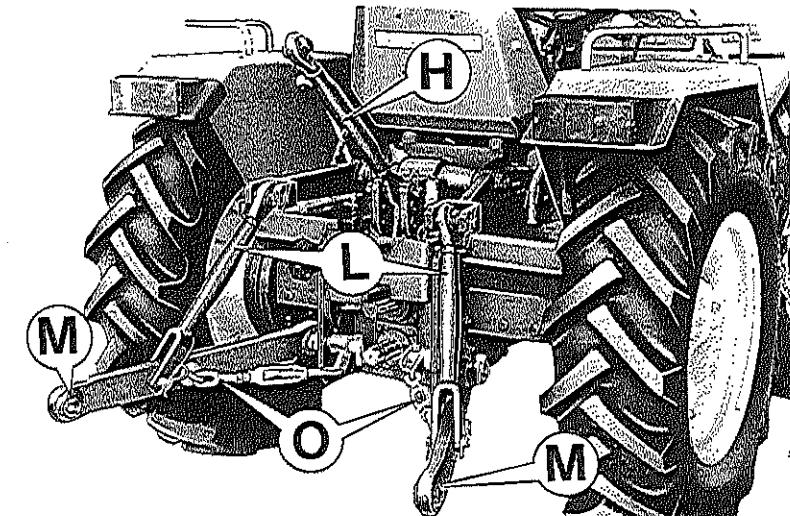

Fig. 3
- Sollevatore attrezzi (Fig. 3)
- Hydraulic lift (Fig. 3)
- Releveur hydraulique (Fig. 3)
- Elevador herramientas (Fig. 3)